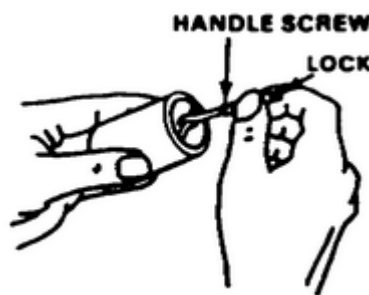

FIGURE 59. USING TELESCOPING GAGE
- c. Use compress plungers and lock by turning the handle screw. Insert the gage in the hole, Figure 59. Release the lock and the plunger expands to the exact size of the hole. Lock the plunger by turning the handle. After locking the plunger, remove the gage and check the measurement with a micrometer.